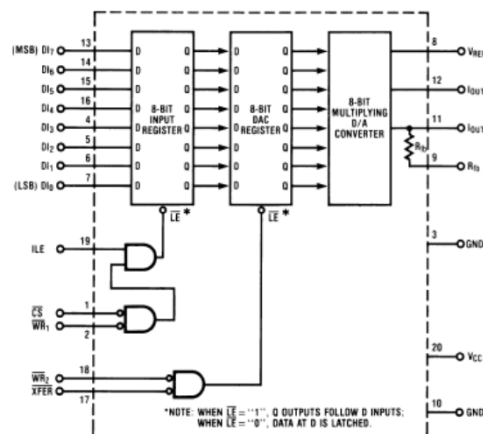

Fig.10-3 DAC0830 Functional Diagram.
- DAC0830/0832 DAC has 8 binary inputs. Each bit, produces an output current that is proportional to the binary weight of the digital input. In an 8-bit binary system, the least significant bit has a binary weight of 1, second 2, third 4 and others have binary weight of 8, 16, 32, 64, 128 respectively. This digital-to-analog converter uses R - $2R$ ladder current network. The functional block diagram is given in Fig. 10-3.